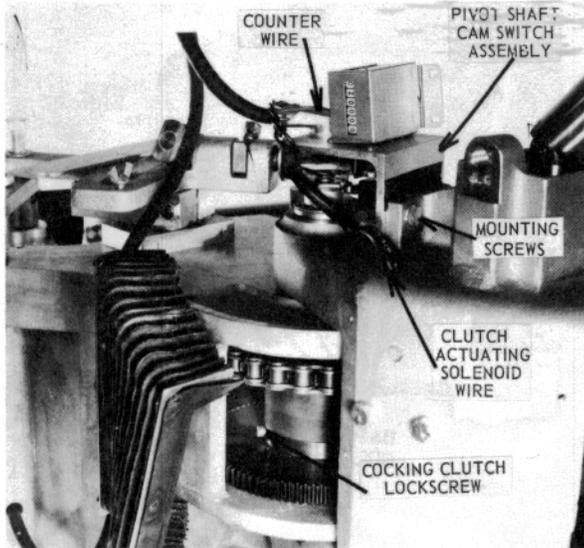

Figure 47 – Pivot Shaft Cam Switch and Counter
5.2 Wires leading to clutch actuating solenoid assembly in front of trap (see Figure 47 and paragraph VII-2.1.8, page 16) may be loose or broken.	5.2 Connect wires properly or replace.
| <p>8.4 Defective pivot shaft cam switch. Also one on timing motor cam microswitch.</p> <p>8.5 Defective timing cam switch.</p> <p>8.6 Angling solenoid coil improperly attached.</p> <p>8.7 Pivot shaft cam incorrectly positioned.</p> <p>8.8 Pivot shaft cam not depressing roller on pivot shaft cam switch enough to actuate switch.</p> <p>8.9 Timing cam switch and pivot switch wired in "normally closed" position.</p> | <p>8.4 Turn trap "On" and allow to idle in the cocked position. Place angling switch on "Auto-Angle". Manually depress the roller follower of the pivot shaft cam microswitch (refer to Figure 47, page 16). While holding it down a series of intermittent clicks should be heard from inside the trap. This sound is the angling solenoid coil being energized each time the cam on the timing motor inside the cover closes its microswitch. If no sound is heard, replace the pivot shaft cam microswitch referred to in section VII-2.1.7, page 16.</p> <p>8.5 Manually depress the roller on the timing cam microswitch (see Figure 84, page 24). A slightly audible click should be heard. If not replace timing cam switch.</p> <p>8.6 Tighten the two angling solenoid coil mounting screws. Reorient the solenoid if it does not disengage the angling clutch when retracted (simulate the energized position to observe this).</p> <p>8.7 See that the flat edge of the pivot shaft cam (see Figure 47, page 16) clears the microswitch roller by 1/8" – 3/16" when the trap in in the cocked position.</p> <p>8.8 "Safe Release" the trap. Position the switch so that manually depressing the roller further fails to cause the small click to be heard when this microswitch closes.</p> <p>8.9 Reconnect to "normally open" contacts.</p> |
- 2.1.6 Rotate the clutch until the cocking clutch lock screw can be backed out about 1/4" with an allen wrench. This screw is the larger of two screws through the side of the cocking clutch, just above the gear (see Figure 47).
- 2.1.7 Remove the pivot shaft cam switch assembly by removing the switch bracket mounting screws. (see Figure 47).
- 2.1.8 Disconnect the wires to the counter and clutch actuating solenoid from the terminal block (see Figure 47).